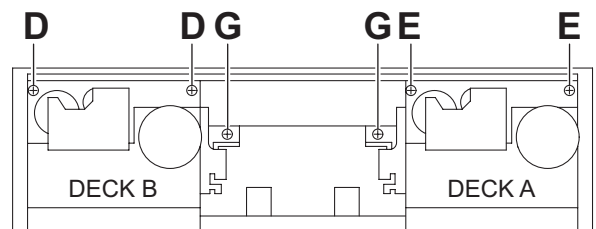

Fig.6
- (1) Remove the two screws **D** or two screws **E** from the corners of the mechanism. (Fig.6)
- (2) Open the door and remove the mechanism assembly.
3.1.4 Removing the eject arm assembly (Fig.6)